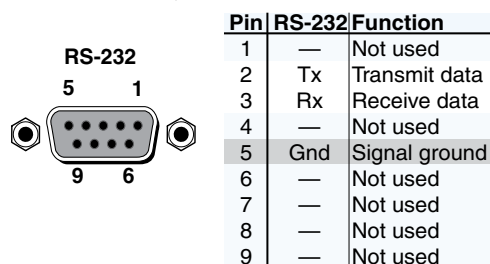

Figure 5. RS-232 Connector Pinout
- ⑥ **RS-232 port** — Connect a computer or control system to this 9-pin D connector to allow remote control using the SIS commands (see figure 5 and the Programming Guide section).